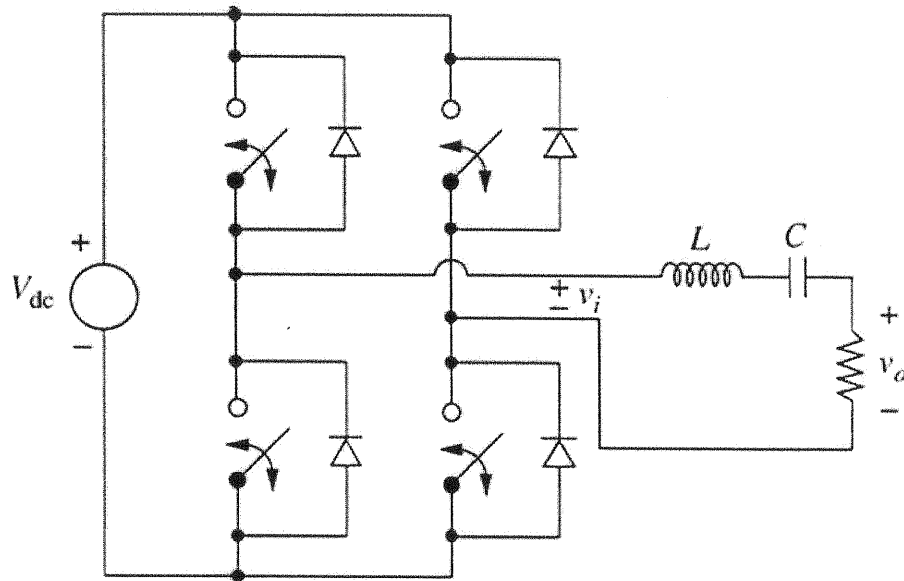

Figure 6
- a. The full-bridge resonant inverter of **Figure 6** has a $8\ \Omega$ resistive load that requires a 1200-Hz, 100-V rms sinusoidal voltage. The THD of the load voltage must be no more than 10 percent. Determine the required dc input and suitable values for L and C .